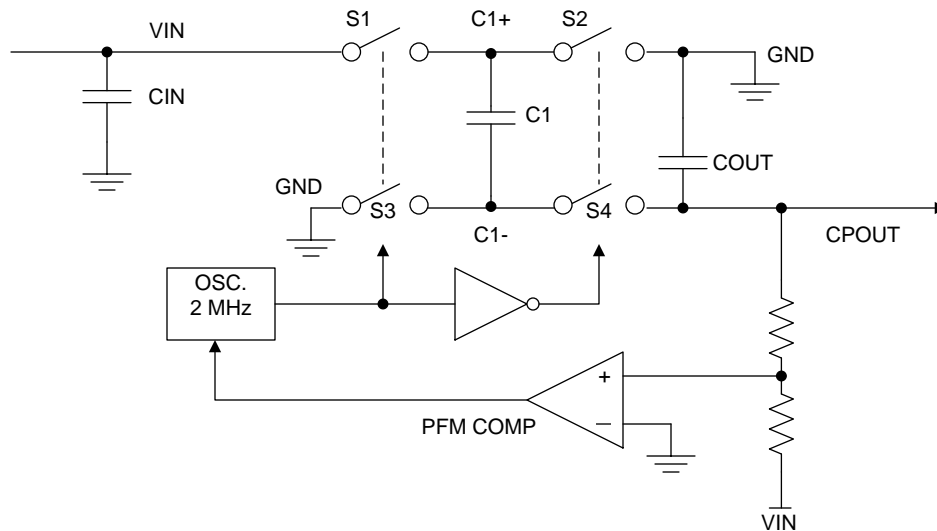

Figure 17. Voltage Inverting Principle
The voltage inverter portion of the LM27761 contains four large CMOS switches which are switched in sequence to invert the input supply voltage. Energy transfer and storage are provided by external capacitors. Figure 17 shows the voltage switches S2 and S4 are open. In the second time interval, S1 and S3 are open; at the same time, S2 and S4 are closed, and C1 is charging C3. After a number of cycles, the voltage across C3 is pumped into V_{IN} . Because the anode of C3 is connected to ground, the output at the cathode of C3 equals $-(V_{IN})$ when there is no load current. When a load is added the output voltage drops determined by the parasitic resistance ($R_{DS(on)}$ of the MOSFET switches and the equivalent series resistance (ESR) of the capacitors) and the charge transfer loss between the capacitors.
- R_{SW} is the sum of the ON resistance of the internal MOSFET switches shown in Figure 17. (1)